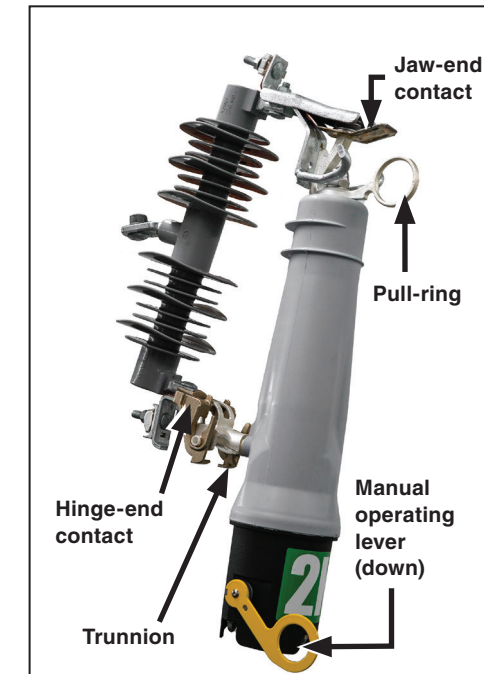

Figure 4. A VacuFuse II Self-Resetting Interrupter.
- STEP 1.** Open the vacuum interrupter inside the VacuFuse II interrupter by moving the manual operating lever to the **Down** position using the straight prong of the Talon Handling Tool or a distribution prong. See Figure 4.